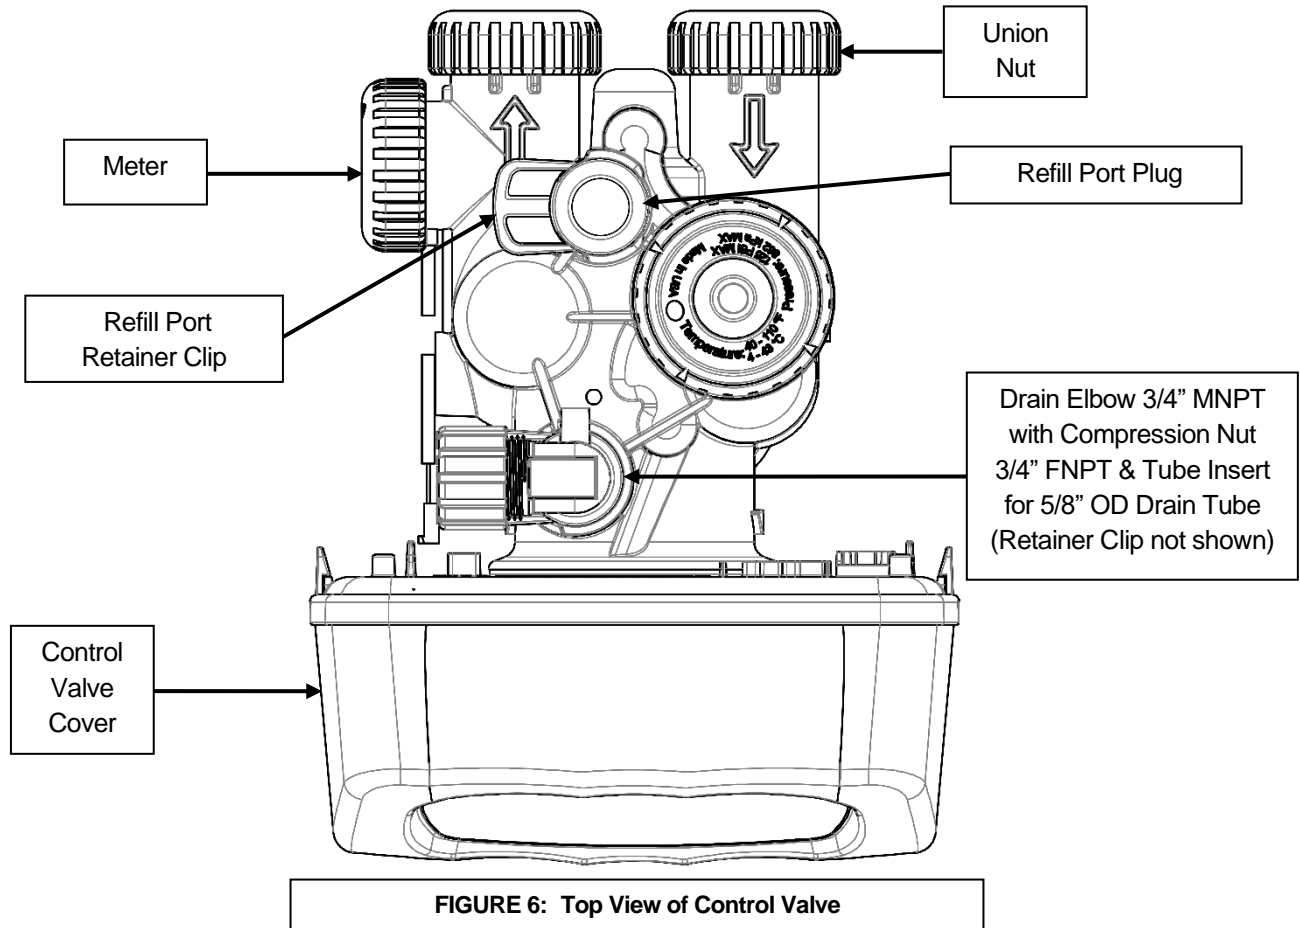

FIGURE 6: Top View of Control Valve
- STEP 6:** **Apply thread tape to DLFC Assembly.** Remove drain line flow control (DLFC) retainer clip (Figure 6, Page 7) and remove the DLFC assembly from the valve body, (Figure 6, Page 7). Apply thread tape to threads. Slide drain fitting compression nut onto provided drain tubing and place the tube insert inside the end of the tubing. Insert tubing end with insert into drain elbow and tighten the compression nut onto the thread taped elbow. Reinsert DLFC assembly into the valve body, making certain it is FULLY inserted before replacing the retaining clip.
- STEP 7:** **Install drain line.** Use the provided ½" I.D. polyethylene tubing (**DO NOT USE FLEXIBLE VINYL TUBING!**) to run drain line from control valve DLFC fitting (Figure 6, Page 7) to floor drain or sump pit capable of handling the backwash rate of the filter (refer to specifications and flow rate on page 16) or discard the compression fitting and use ¾" NPT fitting to connect a rigid pipe drain line (recommended). If backwash flow rate is greater than 7.5 gpm, use ¾" FNPT connector with rigid drain line. There must be an air gap at the end of the drain line to prevent siphoning of wastewater. Length of drain line should be 15' or less. **AVOID OVERHEAD DRAINS.**
- 12) Reattach Drain Line to Control Valve (Figure 6, Page 7).